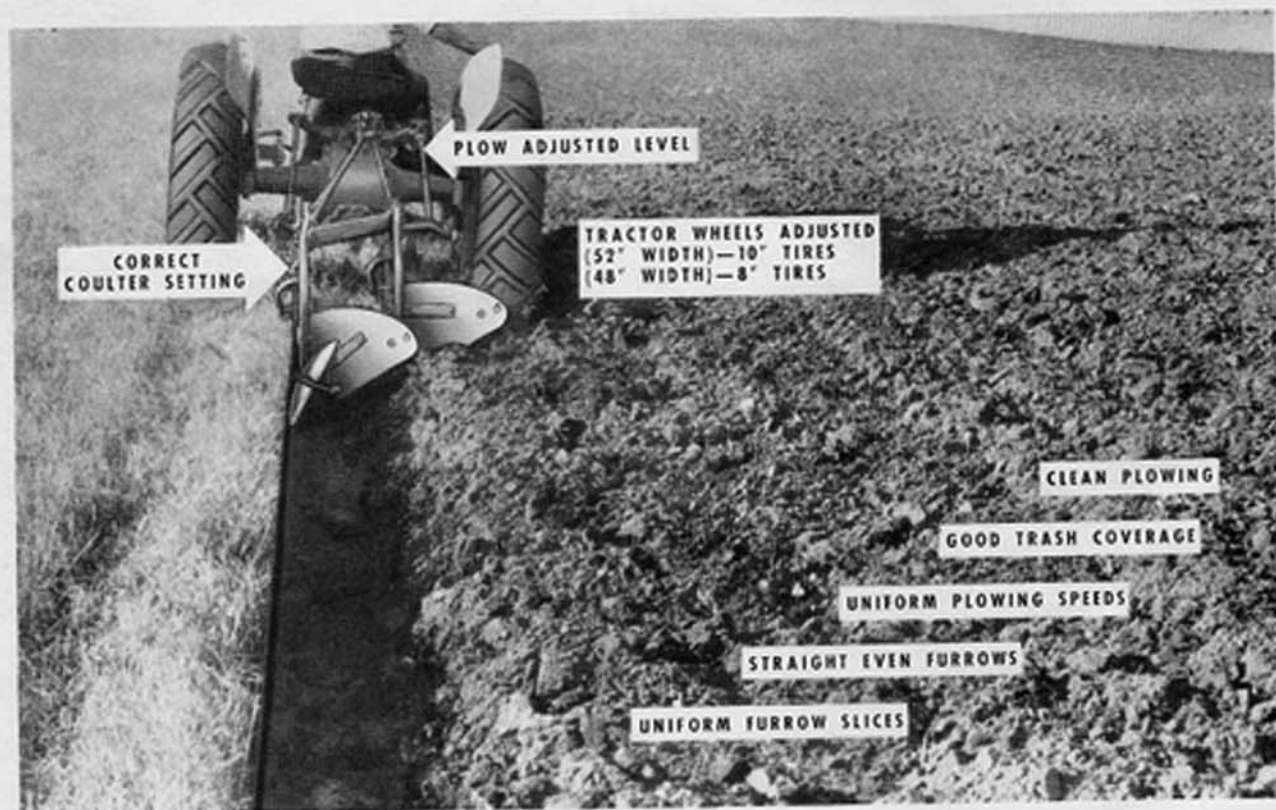
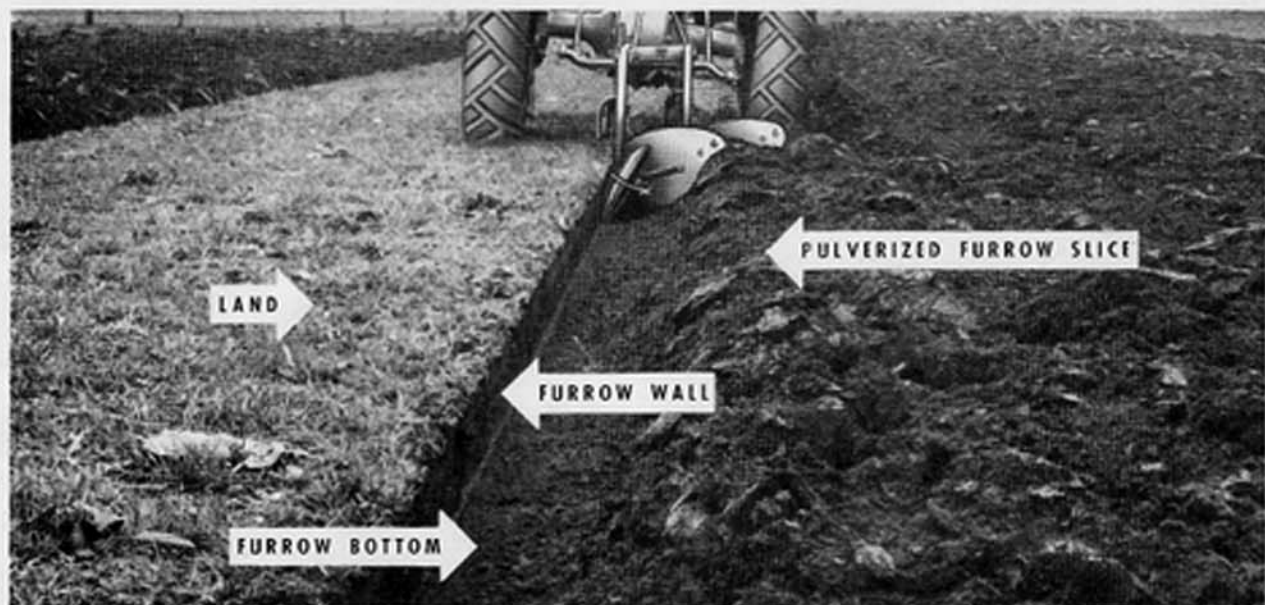

Fig. 4
Fig. 5
Fig. 4 and Fig. 5 illustrate a few of the terms as applied to the quality of plowing and the plowing operation.
**Cause (A):** The front plow cutting wider or narrower than the width of the plow bottom.
**Correction:** Adjust the rear tractor wheels, Fig. 4, to the narrowest spacing: